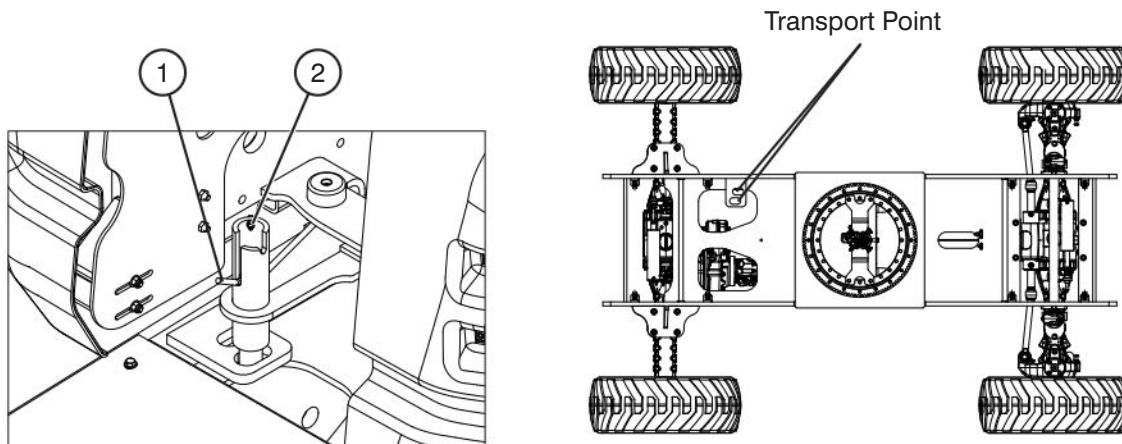

Figure 3-4. Turret Transportation Lock & Locking Points
1. Ensure that turret is positioned so that turret transportation lock tube (item 1 - Figure 3-4) is aligned into one of two turret locking points in the turret rotation lock plate.
2. Pull out turret lock retaining pin (item 2 - Figure 3-4). Lower turret lock into locked position and reinsert turret lock retaining pin.
1. Place boom in stowed position centered between drive wheels. Lock turret using turret transportation locking pin (refer to Section 3.10-2) into the transport point (refer to Figure 3-4).